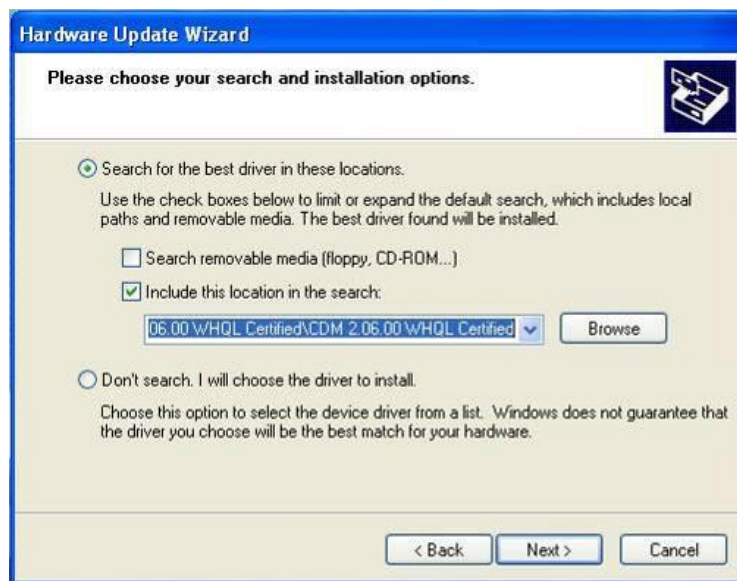

Figure 7.3 : Select location of the driver
3. Select "Search for the best driver in these locations" and enter the file path in the combo-box ("C:\ CDM 2.06.00 WHQL Certified\CDM 2.06.00 WHQL Certified" in Figure 7.3 below) or browse to it by clicking the browse button. Once the file path has been entered in the box, click next to proceed.